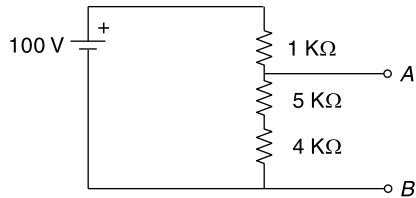

Fig. 15.4
24. Find the voltage between A and B in a voltage divider network (Fig. 15.4)